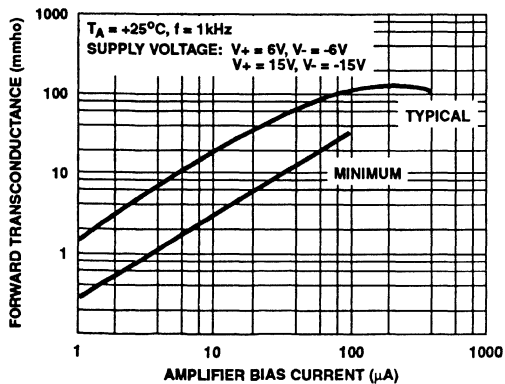

FIGURE 11. FORWARD TRANSCONDUCTANCE vs AMPLIFIER BIAS CURRENT
2. **Selection of Suitable Amplifier Bias Current.** The amplifier bias current is selected from the minimum value curve of transconductance (Figure 11) to assure that the amplifier will provide sufficient gain. For the required g_{21} of 5.5mmho an amplifier bias current I_{ABC} of 20 μA is suitable.